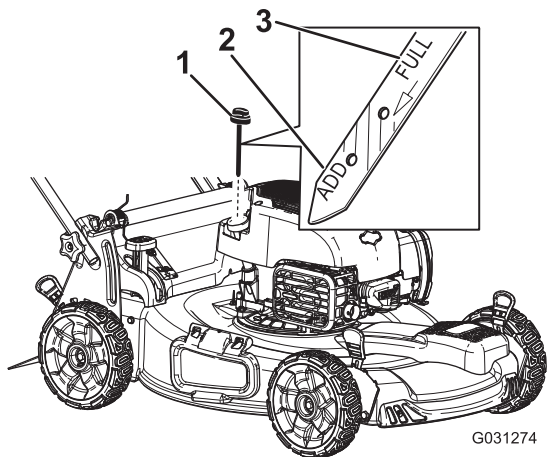

Figure 7
2. Remove the dipstick (Figure 7).
3. Slowly pour oil into the oil fill tube until the oil level reaches the Full line on the dipstick (Figure 7). **Do not overfill.**